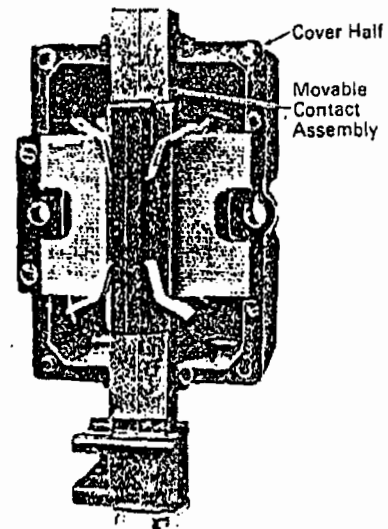

Fig.8 - Movable Contact Assembly In Interlock
4. Carefully remove movable contact assembly, Fig. 8. The movable contact assembly can be removed from the cover-half without danger of losing small parts.
5. When all movable contacts have been replaced with new contacts, very carefully place contact carrier into interlock cover-half, Fig. 8. Ensure each movable contact tip is mated to each stationary contact. Position contact carrier key so that the key is inside the C-D, G-H cover. A molded projection inside the A-B, E-F cover further assures a correct assembly.
6. Gently slide insulator up until the insulator fits into notches in the interlock cover half as shown in Fig. 8.